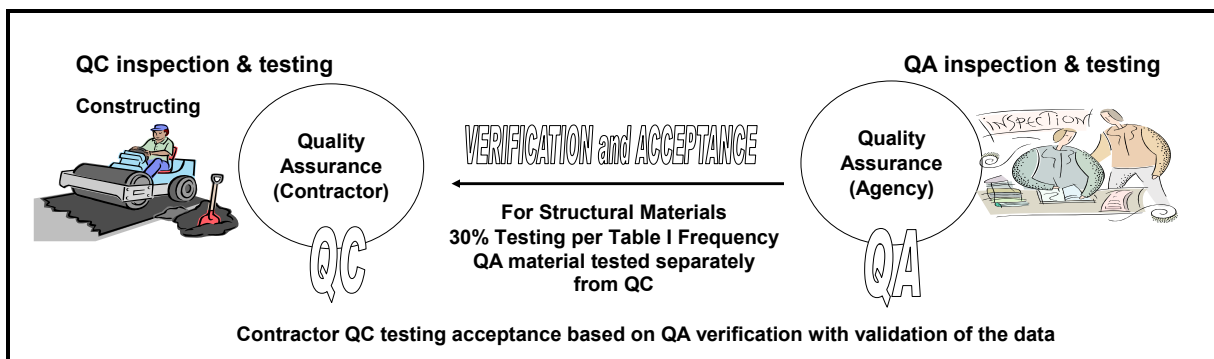

Figure 1- Quality Control and Quality Assurance Relationship
- 4 The Quality Control and Quality Assurance relationship is demonstrated in Figure 1.